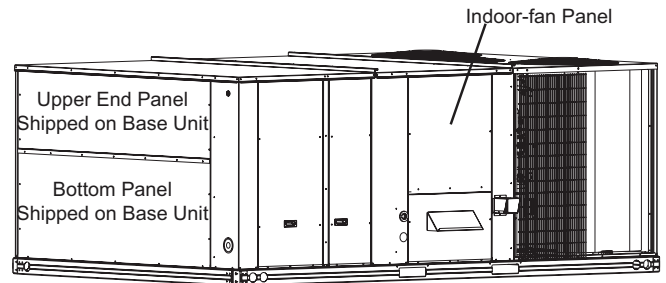

Fig. 2 — Upper and Bottom Panel on end of Unit
3. Remove the upper panel and bottom panel (provided with the HVAC unit) on the end of the unit to expose the return section. (See Fig. 2.) Save the screws for use later when replacing the panel. The panels can be discarded.